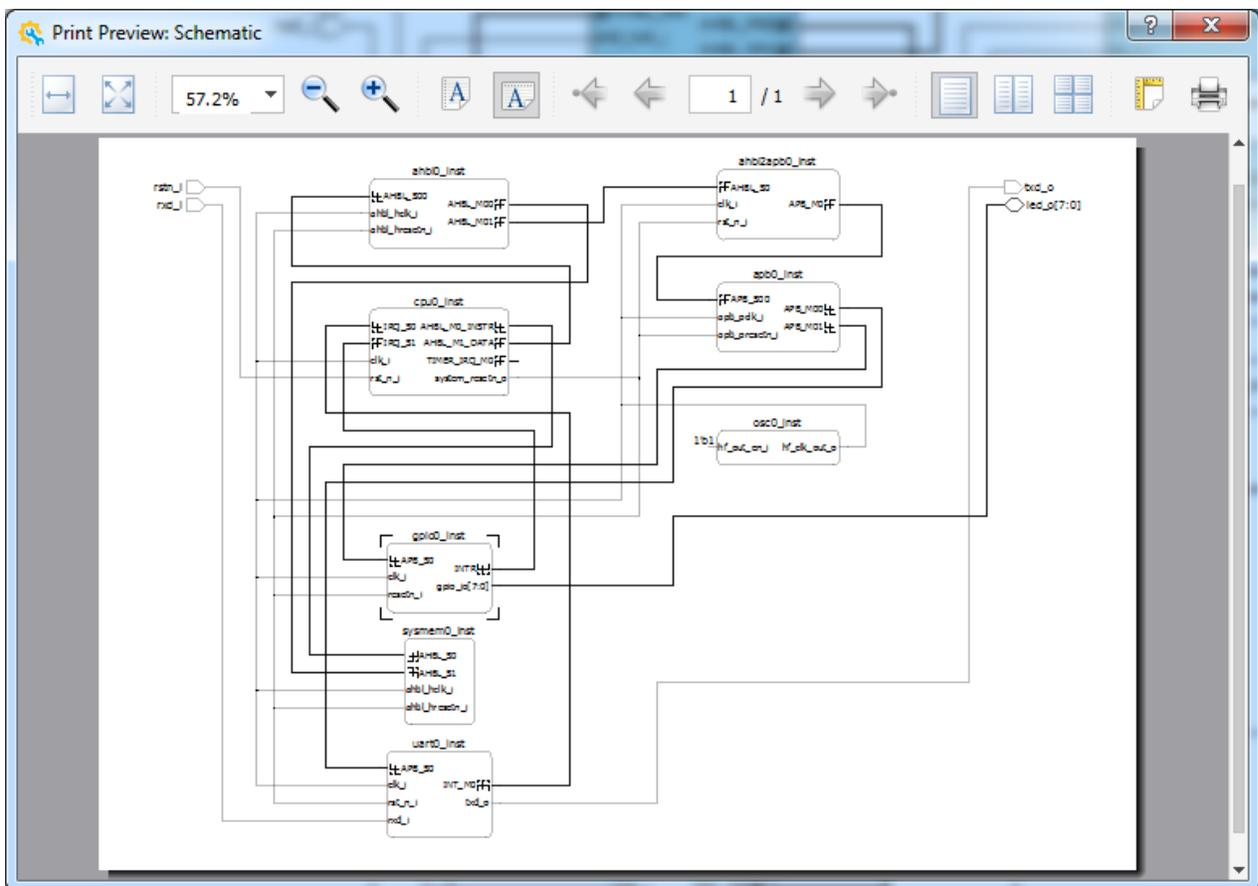

Figure 2.32. Print Preview
- a. Choose **File > Print Preview**. The Print Preview window (Figure 2.32) opens.